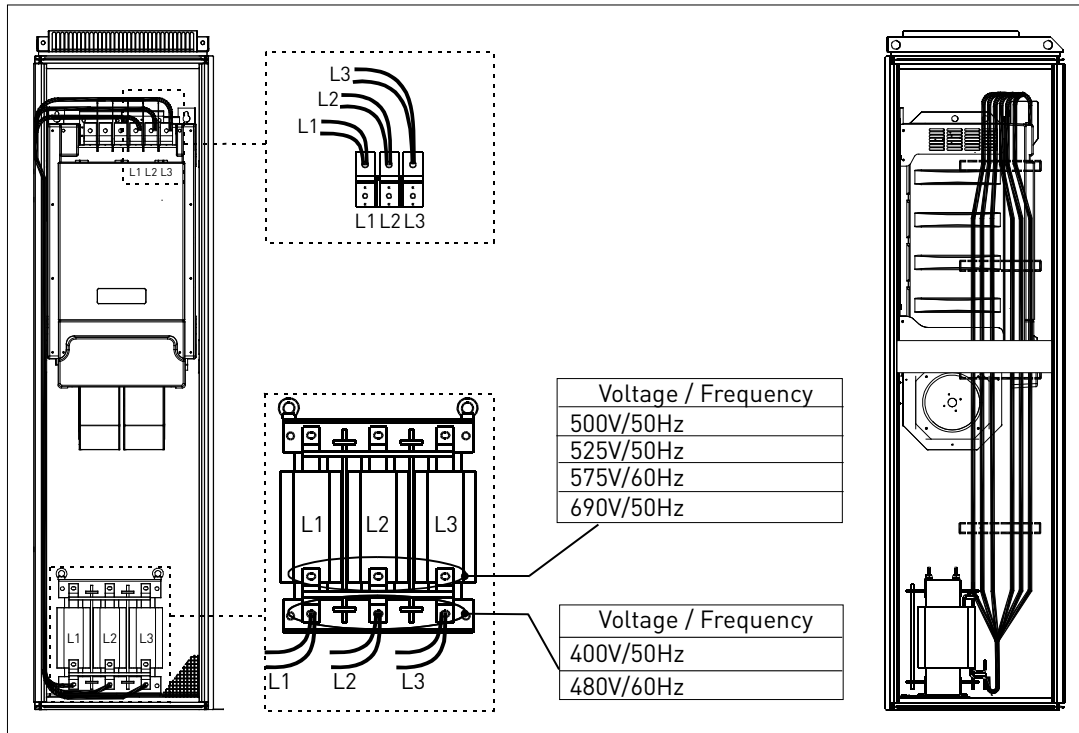

Figure 14. Connecting the power cables between the AC choke and the power unit
- B = Minimum distance from the top of the cabinet; This space is needed for the power cables (see Figure 14).
Connect three power cables according to Figure 14 to the output terminals of the AC choke and the input terminals of the power module. It is recommended to use cables designed for 90°C. Connect the L1 cable from the L1 terminal of the AC choke to the L1 input terminal of the power module, the L2 cable to the L2 terminal, and the L3 cable to the L3 terminal.